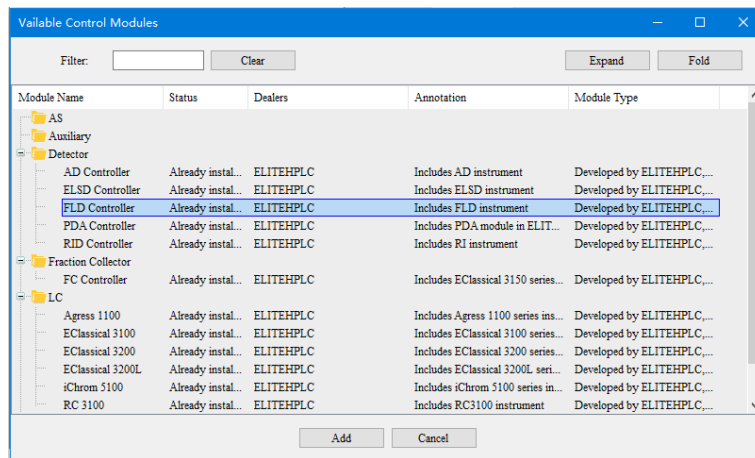

Fig.3-9 Configuration Interface 03
3) Click the "Add" button at the lower left corner of interface 3-8, and the interface as shown in Fig 3-9 will pop up: